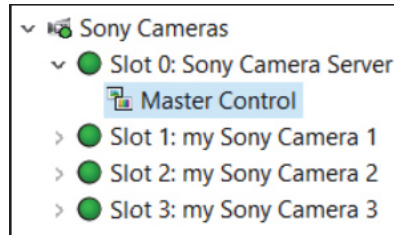

Figure 3.3 - The Master Control Node in the DashBoard Tree
The advanced configuration interface appears (**Sony CNA-1 Configuration**). See **Figure 3.3**.
- If you are configuring a computer other than the first computer (proxy server), in the DashBoard tree, expand the node for the cameras, expand the **Sony Camera Server** node (**Slot 0**), and then tap the **Master Control** node (**Figure 3.3**).